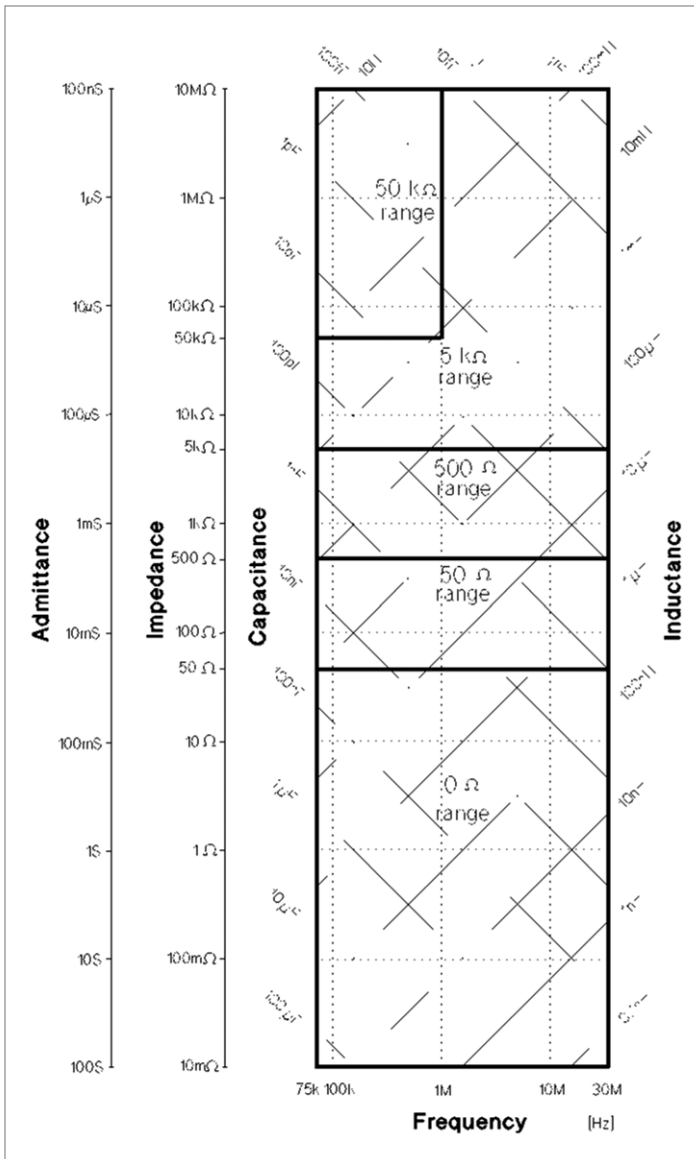
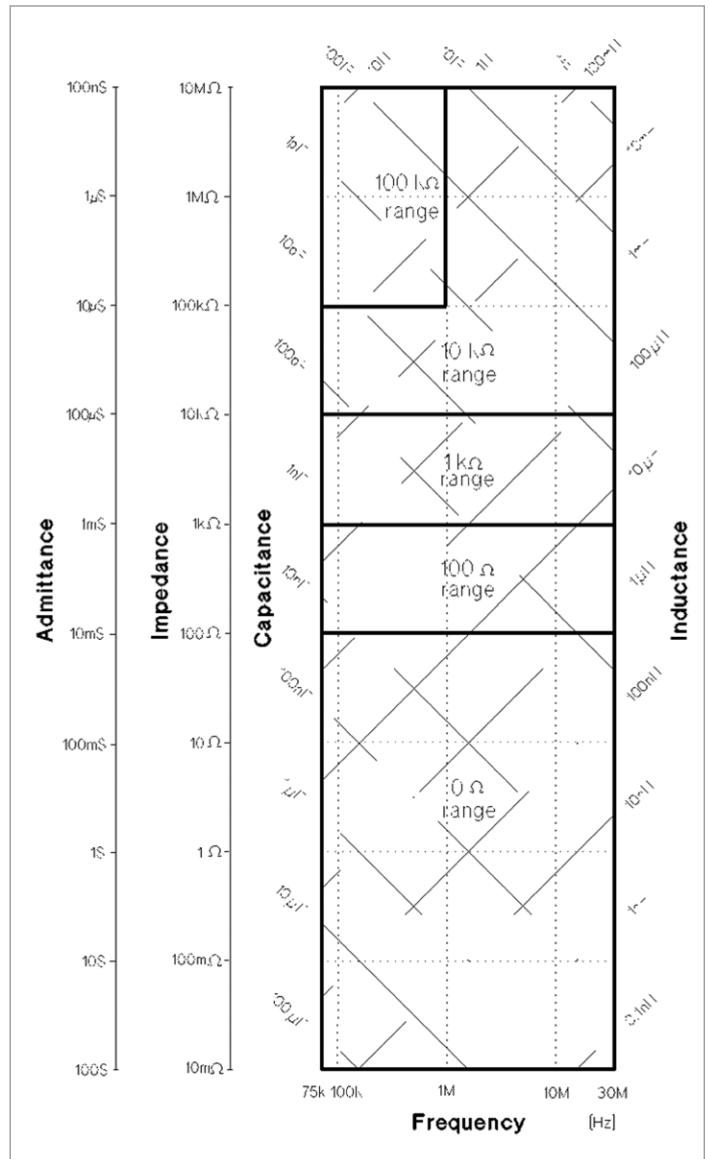

Figure 1-1. Effective measurement range (oscillator level  $\leq 1 V_{rms}$ )
Figure 1-2. Effective measurement range (oscillator level  $> 1 V_{rms}$ )
- The optimum measurement range is selected by matching the DUT's impedance to the effective measuring range shown in Figure 1-1 and Figure 1-2. (For example, if the DUT's impedance is 3 k $\Omega$  and oscillator level is less than or equal to 1 V, the optimum range is the 500  $\Omega$  range.)